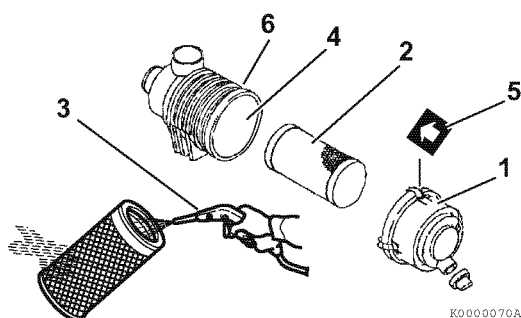
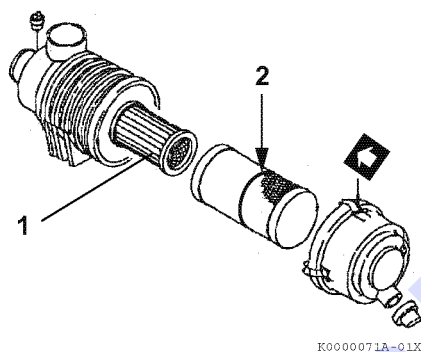

Figure 13
Figure 14
Note that a typical air cleaner is shown in **Figure 13** and **Figure 14** for illustrative purposes only.
1. Unlatch and remove the air cleaner cover (1, **Figure 13**).
2. Remove the element (2, **Figure 13**) (outer element if equipped with two elements).
3. Blow air (3, **Figure 13**) through the element from the inside out using 42 - 71 psi (0.29 - 0.49 MPa, 3.0 - 5.0 kgf/cm²) compressed air to remove the particulates. Use the lowest possible air pressure to remove the dust without damaging the element.
4. If the air cleaner is equipped with a double element, only remove and replace the inner element (1, **Figure 14**) if the engine lacks power or the dust indicator actuates (if equipped).
7. Reinstall the element into the air cleaner case (4, **Figure 13**).
*Note: If there is a red line (2, **Figure 14**) in the outer element, reinsert the element until the overlap position of red line and end face of the air cleaner case.*
8. Reinstall the air cleaner cover making sure you match the arrow (5, **Figure 13**) on the cover with the arrow on the case (6, **Figure 13**).
Replace the air cleaner element (2, **Figure 13**) every 500 hours even if it is not damaged or dirty.
When replacing the element, clean the inside of the air cleaner case (4, **Figure 13**).
If the air cleaner is equipped with a double element, *only remove and replace the inner element (1, **Figure 14**) if the engine lacks power or the dust indicator actuates (if equipped)*. This is in addition to replacing the outer element.